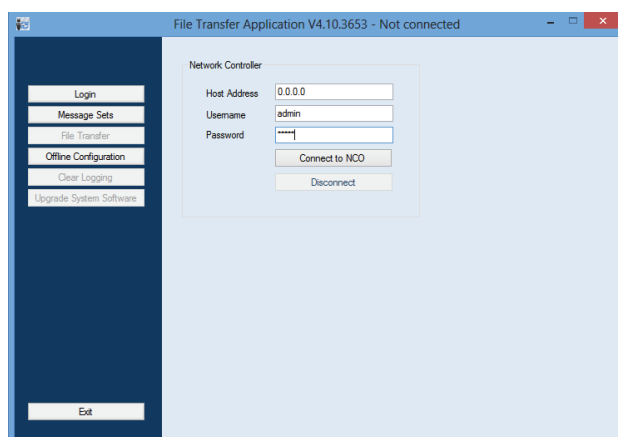

figure 37.4: Connecting to the network controller
- 8 Go to *Start > Programs > Bosch > Praesideo > FT Application* to start the Praesideo *File Transfer Application*. A screen similar to the one in figure 37.4 appears.